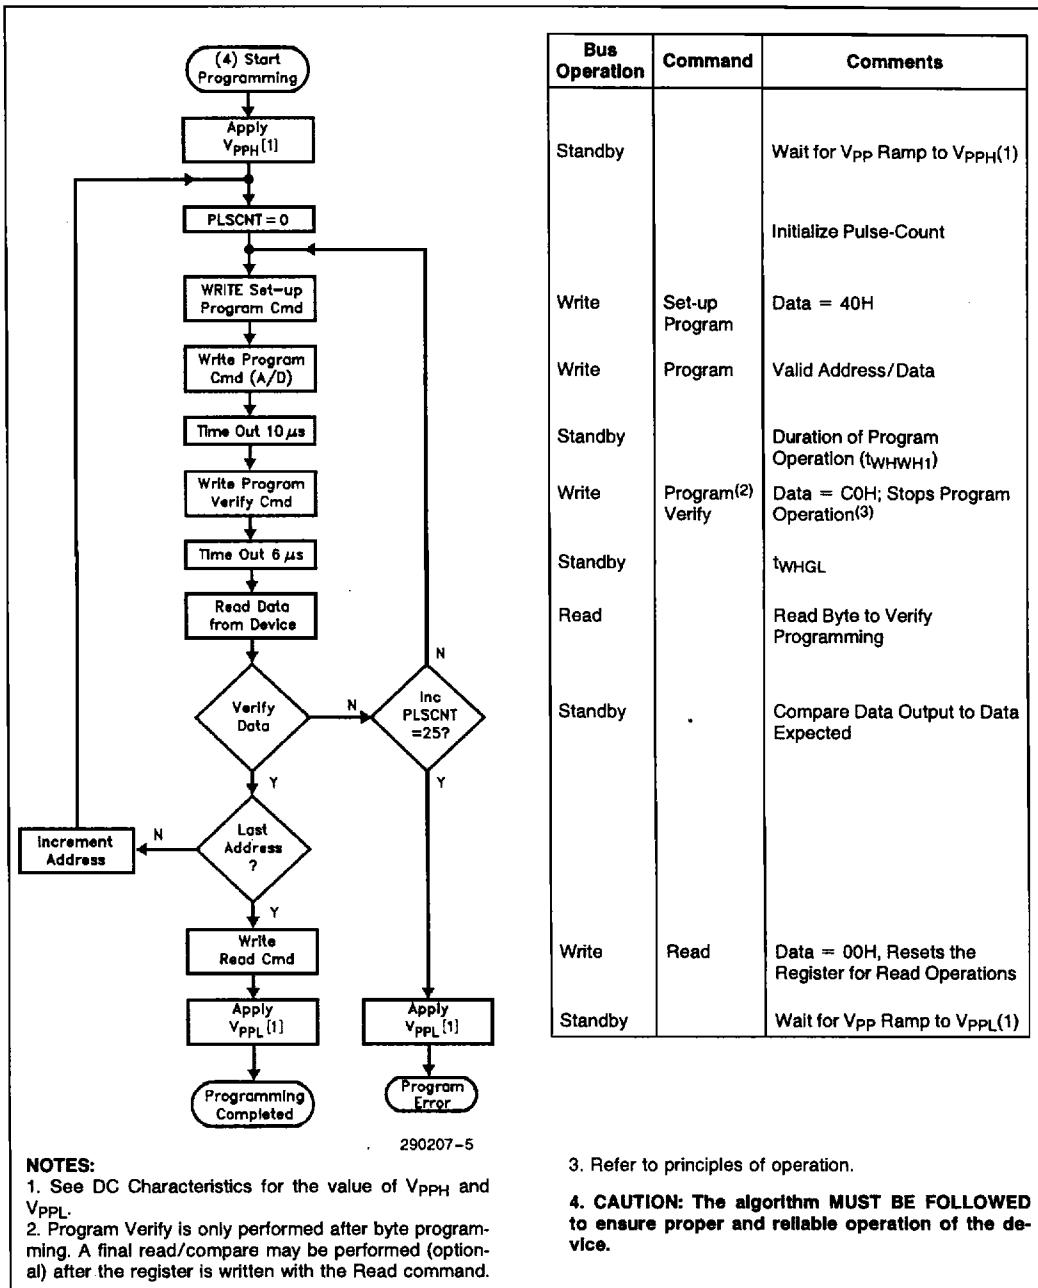

Figure 4. 28F010 Quick Pulse Programming Algorithm
6. Figure 4 illustrates the Quick Pulse Programming Algorithm.
The Quick Pulse Programming algorithm uses programming operations of 10  $\mu$ s duration. Each operation is followed by a byte verification to determine when the addressed byte has been successfully programmed. The algorithm allows for up to 25 programming operations per byte, although most bytes verify on the first or second operation. The entire sequence of programming and byte verification is performed with VPP at high voltage. Figure 4 illustrates the Quick Pulse Programming algorithm.